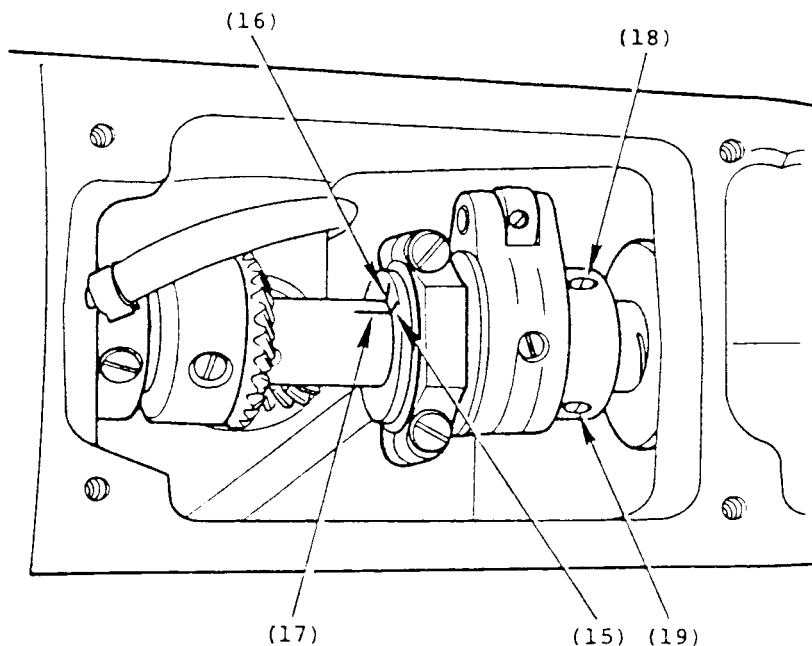

Fig. 12
If for any reason, it is necessary to alter the timing of feed and feed lifting eccentric, the eccentric should be adjusted and locked in desired setting with set screws (18) and (19), Fig. 12.